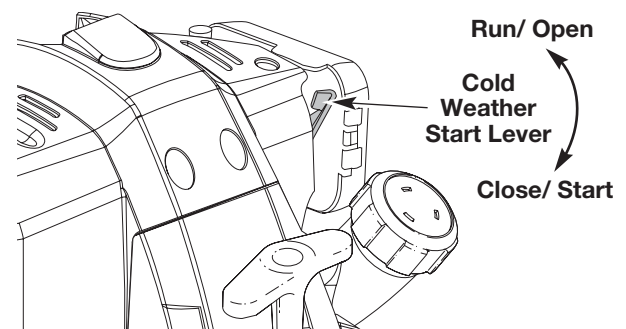

Fig. 22
**IF COLD...** For cold weather conditions (below 40°F), flip the Cold Weather Start Lever (Fig. 22) down to the start/closed position and continue to step 3. **DO NOT** flip this lever down if the temperature is above 40°F.